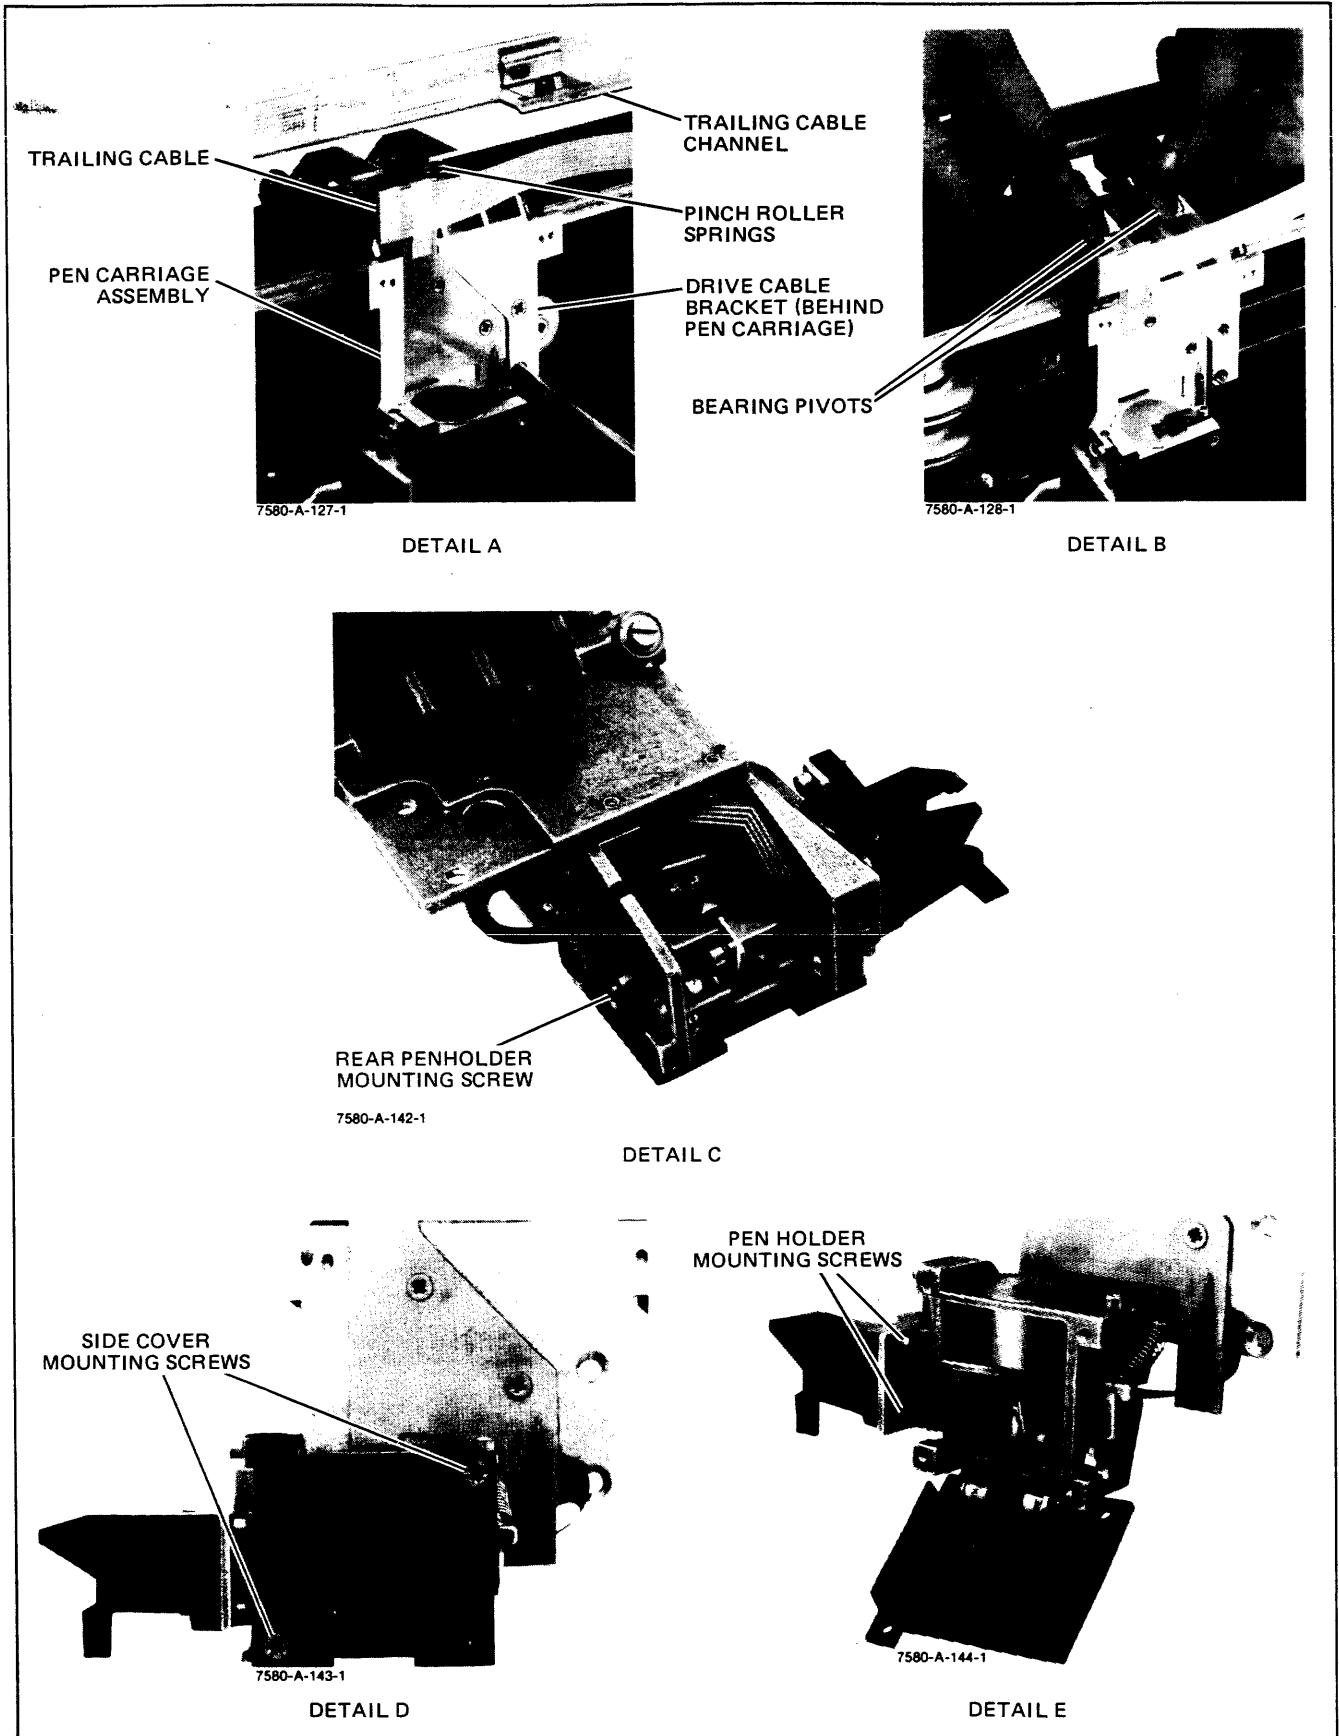

Figure 3-16. Pen Holder Adjustment
- i. Remove the two screws securing the pen carriage to the drive cable bracket. See Figure 3-16, Detail A.
- j. Compress the two pinch roller springs which apply pressure to the two bearing pivots on top of the carriage. See Figure 3-16, Detail B. Rotate the carriage forward and off the Y arm.
- k. Loosen the rear pen holder mounting screw. See Figure 3-16, Detail C.
- l. Remove the two screws securing the side cover of the pen carriage. See Figure 3-16, Detail D. Carefully separate the side cover from the pen carriage so as to avoid damaging the flex cable. Do not disturb the alignment of the pen lift photo sensors and flag mechanism.
- m. Loosen the two remaining pen holder mounting screws. See Figure 3-16, Detail E.